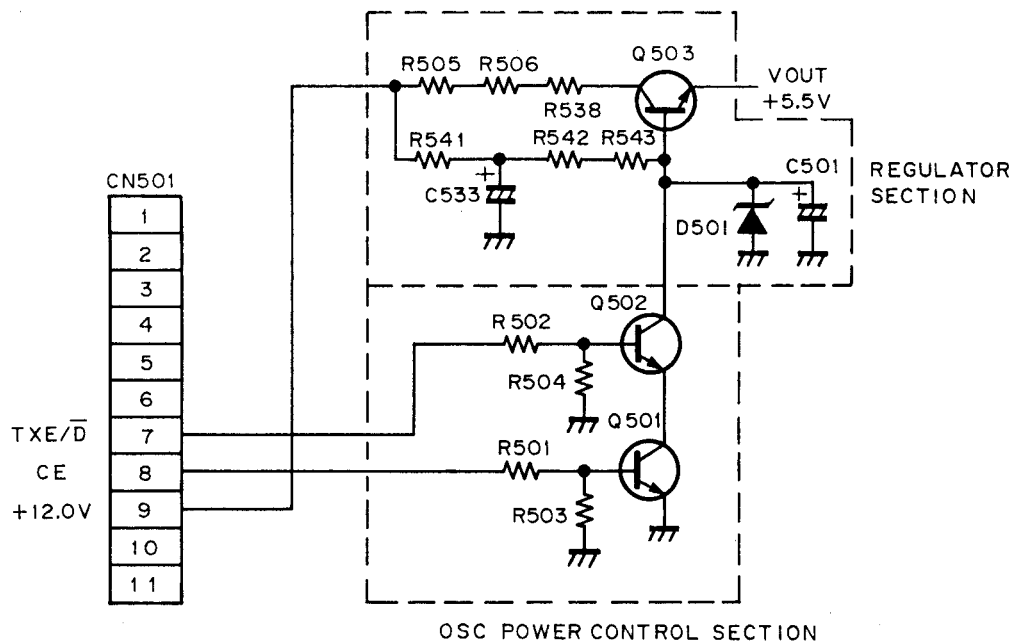

Fig. 37 Regulator and OSC Power Control
5. Regulator and OSC Power Control (Fig. 37)